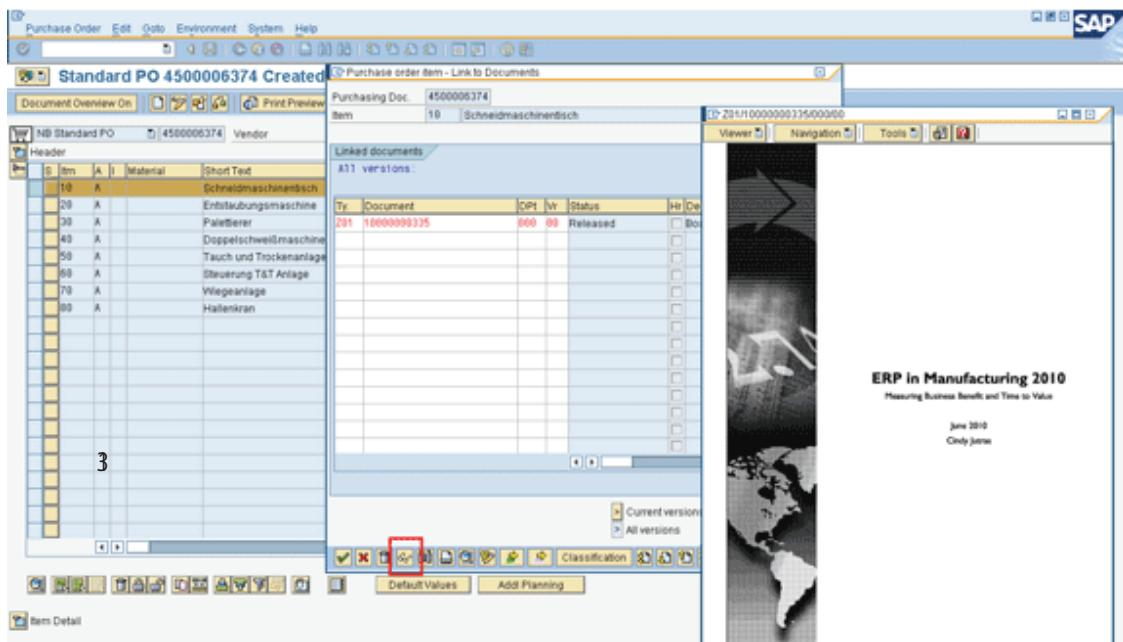

Figure 5: An Object Links Tab in SAP DMS with Equipment Number and Purchase Order Line Item
Figure 5 shows the purchase order display screen and shows how the DMS document gets directly attached to a purchase order line item number with instant availability of information to the procurement department. The user clicks on the gem-clip (1) as shown in Figure 5, which brings up the attached DMS documents (2) and the user can select a DMS document and display its content (3). In the example below, the report 'ERP in Manufacturing 2010' appears as a DMS object link to the purchase order line item.